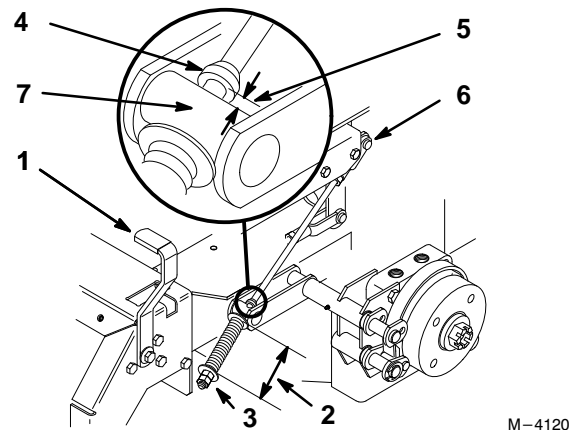

Figure 47
2. Measure the length of the spring. Measurement should be 2.75" (70 mm) between washers (Fig. 47).
3. If adjustment is necessary, loosen the jam nut below the spring and tighten the nut directly below the yoke (Fig. 47). Turn the nut until the correct measurement is obtained. Tighten the two nuts together and repeat on opposite side of unit.
6. Measure the distance between the trunnion roller and the collar on brake rod. Measurement should be 3/16"–1/4" (5–7 mm) (Fig. 47).
7. If adjustment is necessary, loosen the jam nut directly below the yoke. Turn the bottom adjusting nuts until the correct measurement is obtained (Fig. 47). Tighten jam nut at yoke